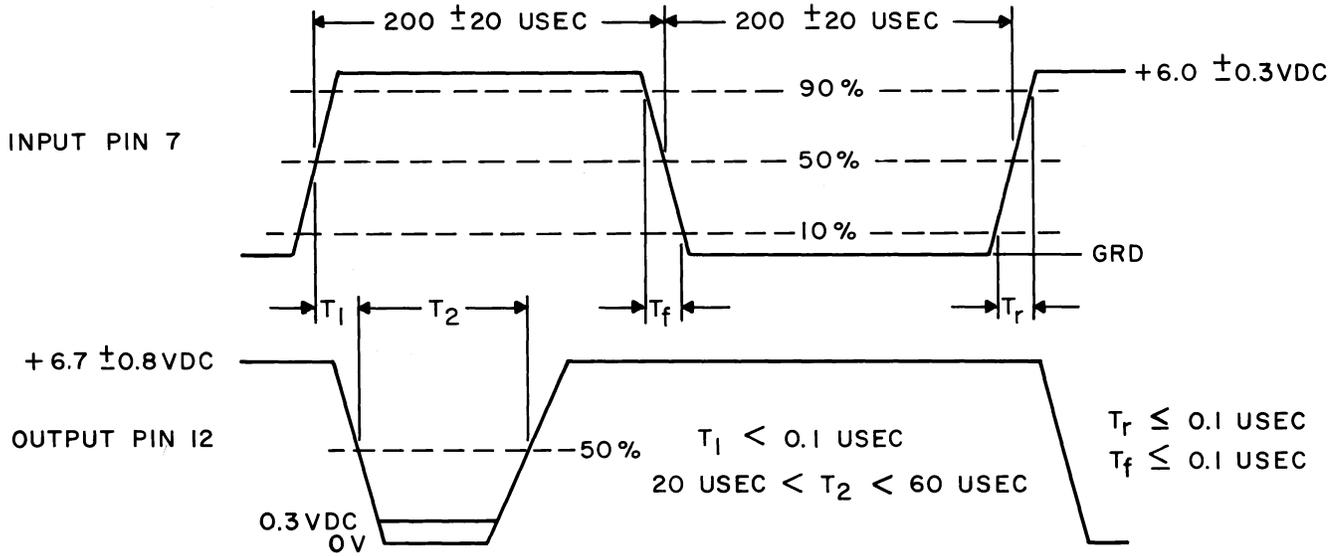

Fig. 42 - (Remote Circuit Card Test)
- (2) Set the scope EXT SYNC TRIGGER SLOPE to (+) positive.
- (3) The input wave form at terminal 7 shall be as specified in Fig. 42.
- (4) The output wave form at terminal 12 shall be as specified in Fig. 42.